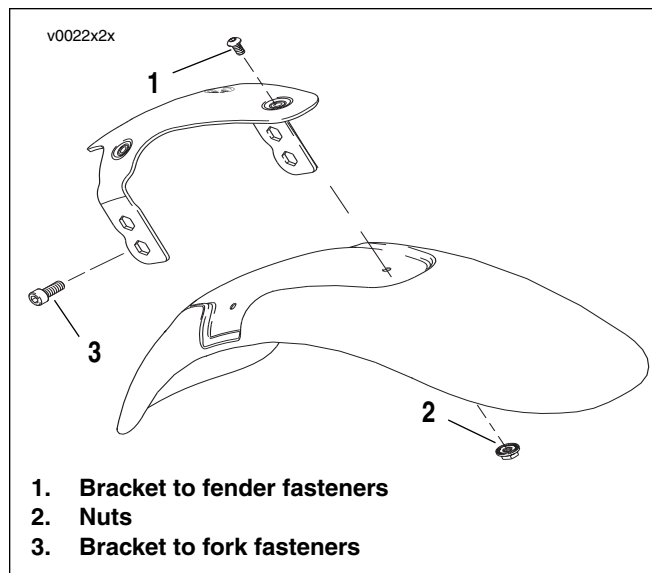

Figure 2-101. Front Fender
1. See Figure 2-101. Remove fasteners (3) from front fork and remove fender and bracket.
1. See Figure 2-101. Attach fender to fender bracket. Tighten fasteners (1, 2) to 4.1-6.8 Nm (36-60 **in-lbs**).
2. Position fender and bracket in front fork and secure with fasteners (3). Tighten to 20-26 Nm (15-19 **ft-lbs**).